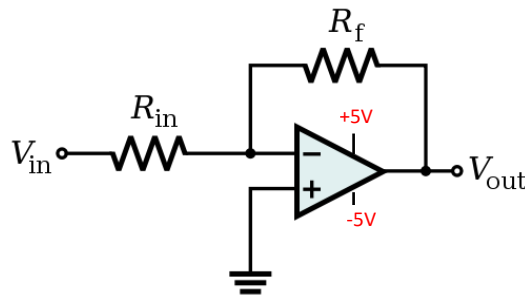

Figure 6: Schematic of Inverting amplifier with dual power supply
2. Use the dual power setup described above (**Setups: C. Dual Power Supply Setup**) to power up the op-amp. Pin 4 of the Op-Amp should be at -5V and Pin 8 should be at +5V. Pay attention to the polarity of the voltage supply. Refer to Figure 6. The GND terminal of the Dual Power Supply Setup is the new ground terminal of the circuit.
3. Connect the V_{in} as described in **Setups: A. Waveform Generator Setup** to the circuit in Figure 6.
4. Connect "CHA" and "AWG" from the Bitscope to V_{in} and "CHB" to the V_{out} in Figure 6. Remember to connect the GND terminals of CHA and CHB to the GND terminal of the circuit. Measure the peak-to-peak voltage for "CHB" as described in **Setups B. Measurements using Bitscope** and note down V_{PP} and the V_{Avg} in the output voltage column of Table 2.